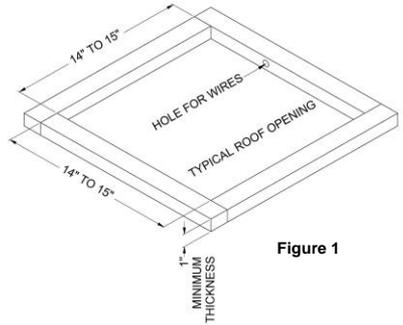

Figure 1
enlarged. If the opening exceeds 15" x 15", a mounting frame must be field fabricated to reduce the opening size (See Figure 1).
- B. If a roof vent opening is not used, a new opening (See Figure 1) will have to be cut into the vehicle roof. A matching opening will also have to be cut into the interior vehicle ceiling. If the ceiling opening is carpeted, snagging could occur. After the opening in the roof and interior ceiling are the correct size, a framed support structure must be provided between the exterior roof top and the interior ceiling. The reinforced frame structure must provide the following:
Airxcel, Inc. requires that the spacing from the vehicle roof top to the interior ceiling be no less than 1". A typical support frame is shown in Figure 1.